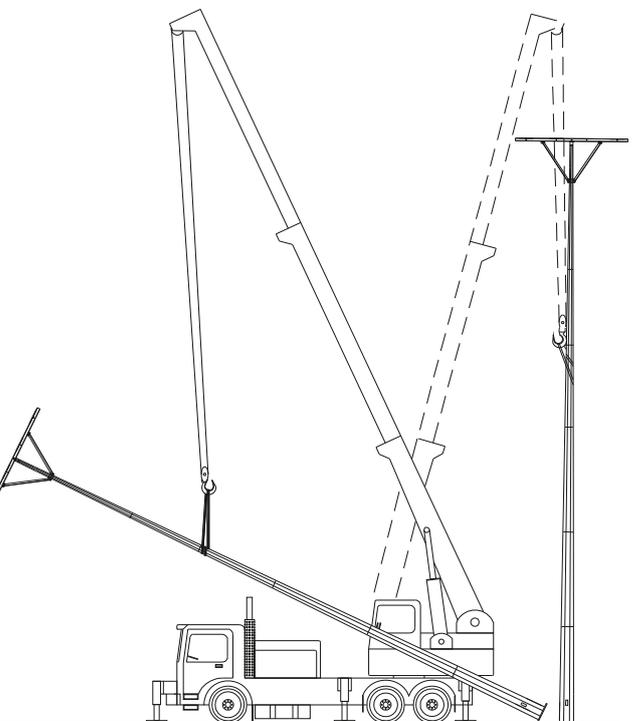

Figure 7
3. Position the crane 6-8m from the centre of foundation to centre of the jib turntable. Plan the operation so that the column is lifted at approximately the same jib radius needed for placing it over the foundation (Figure 7).